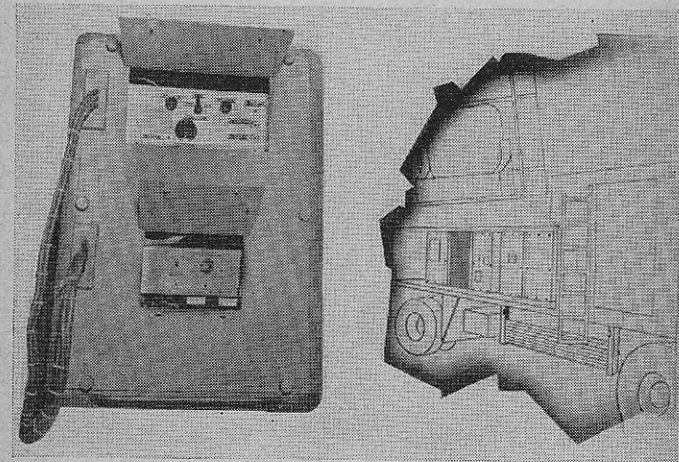

FIGURE 25.—SEARCH receiver.
■ **23. SEARCH RECEIVER.**—The **SEARCH RECEIVER** (fig. 25) detects and amplifies the signals delivered to it by the **SEARCH** antenna. As in the case of the **TRACK RECEIVER** (par. 18), remote tuning of the beating oscillator and control of receiver gain, both manual and automatic, is provided in the trailer cab.